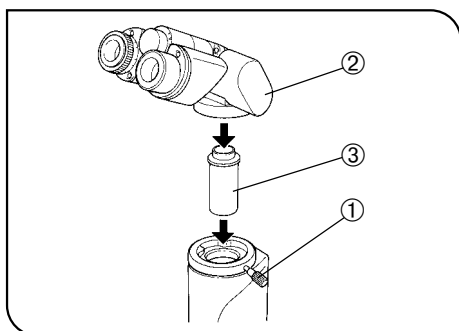

Fig. 11
1. Loosen the observation tube clamping knob ① as much as possible without it coming off. (Fig. 11)
2. Carefully insert the relay lens tube ③ of the CK40-TBI ② into the observation tube mount opening. (Fig. 11)
3. Insert the circular dovetail at the bottom of the CK40-TBI ② into the mount opening on the microscope body. Adjust the observation tube until the binocular eyepieces face directly to the front, and then tighten the clamping knob. (Fig. 11)